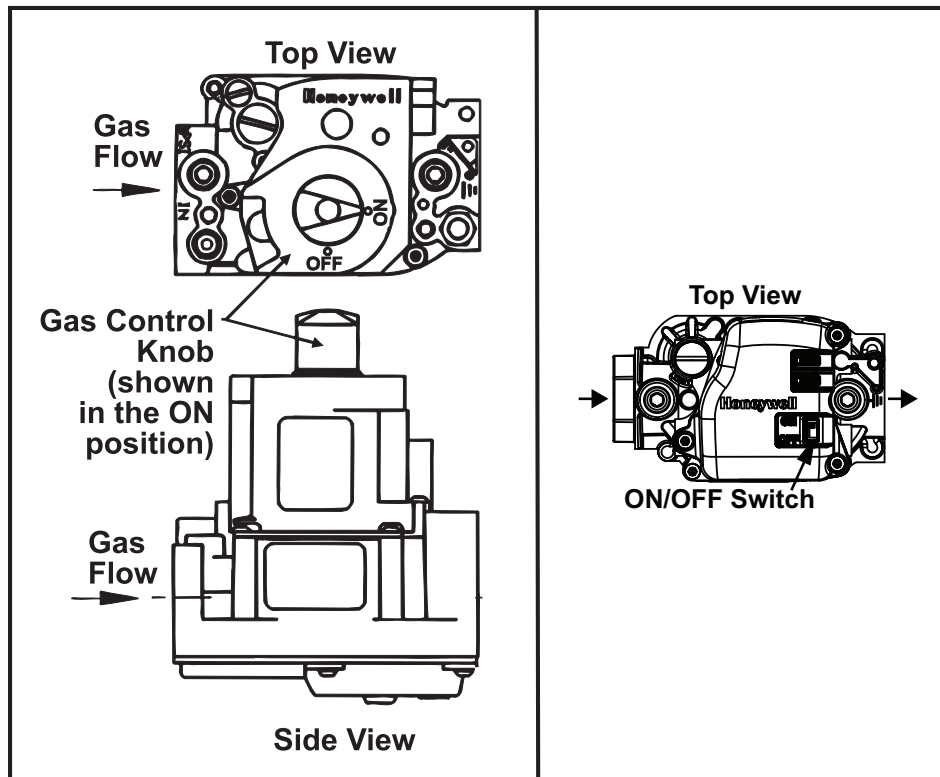

Figure 12. Gas Valve ON/OFF Control
- Open access door and locate gas control (ON/OFF) knob or switch on gas valve (see Figure 12).